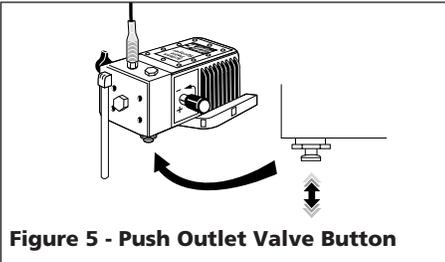

Figure 5 - Push Outlet Valve Button
4. Push Outlet Push Button three times to ensure Outlet Valve is moving freely (See Figure 5).